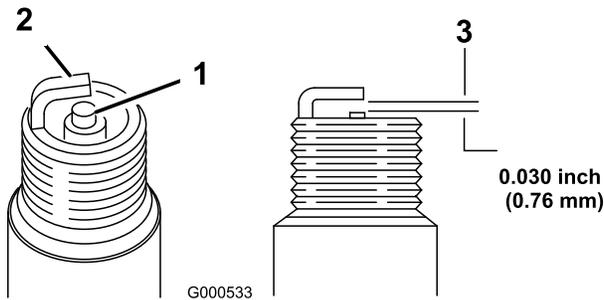

Figure 37
- Set the gap on the plug to 0.030 in. (0.76 mm) (Figure 37).